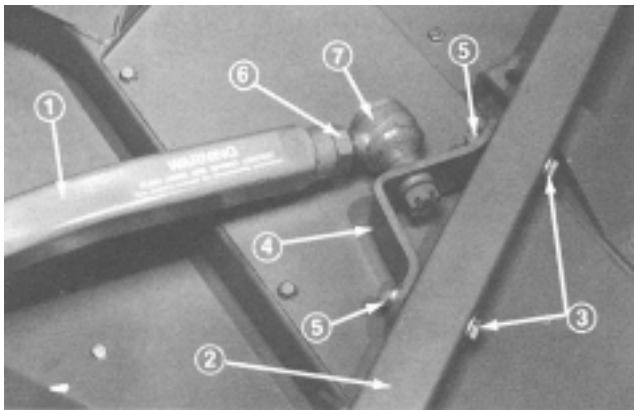

Figure 12
4. Secure the ball joint mount to the castor arm (Fig. 12) with 2 capscrews (7/16 x 3 in.), flat washer (7/16 in.), and nuts (7/16 in.). The head of the capscrew and the large flat washer must be outside of the castor arm.
5. Tighten the large jam nut against the front of the right push arm (Fig. 12). When tightening the jam nut, hold the ball joint straight to permit proper oscillation during raising and lowering of the cutting unit.